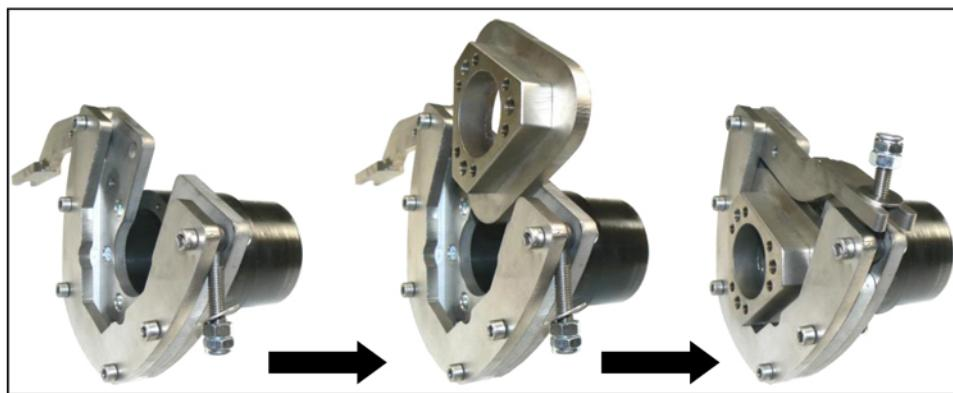

Figure 3-14 Quick Lock System
This system is comprised of triangular plates on the projector bracket that mate with a slots on the YK200 tilt mechanism (**Figure 3-14**). They are secured with a latch that fastens with (2) nuts, (3) blocking bolts and (1) safety bolt. With only a few steps, the user can quickly change out projectors that have been pre-mounted onto brackets.